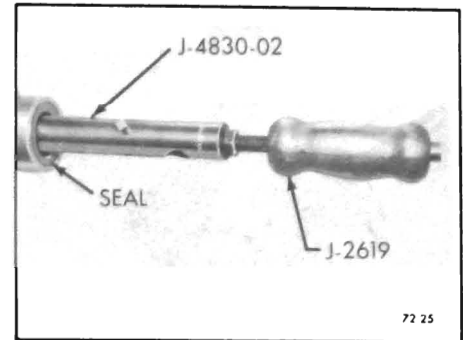

Figure 72-25 - Removing Rear Bearing Retainer Oil Seal
1. Using J-2619 Slide Hammer and J-4830-02 Puller, remove rear bearing retainer oil seal. See Figure 72-25.